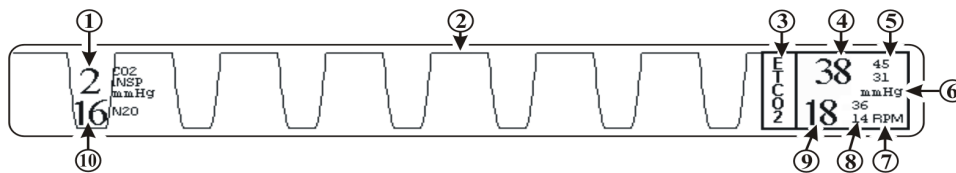

Figure 4-16. The ETCO₂ Display
4.6.2 Associated Waveforms and Displays. (See **Figure 4-16**) ETCO₂ information is displayed as a waveform in Trace location C and as numeric data in Box 3. The following is a description of the items contained within the ETCO₂ Display: